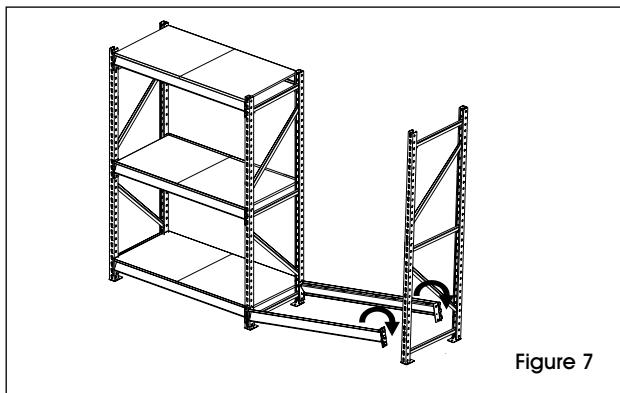

Figure 7
8. Holding the third upright in place, lift and hook the shelf beams into place. (See Figure 7)